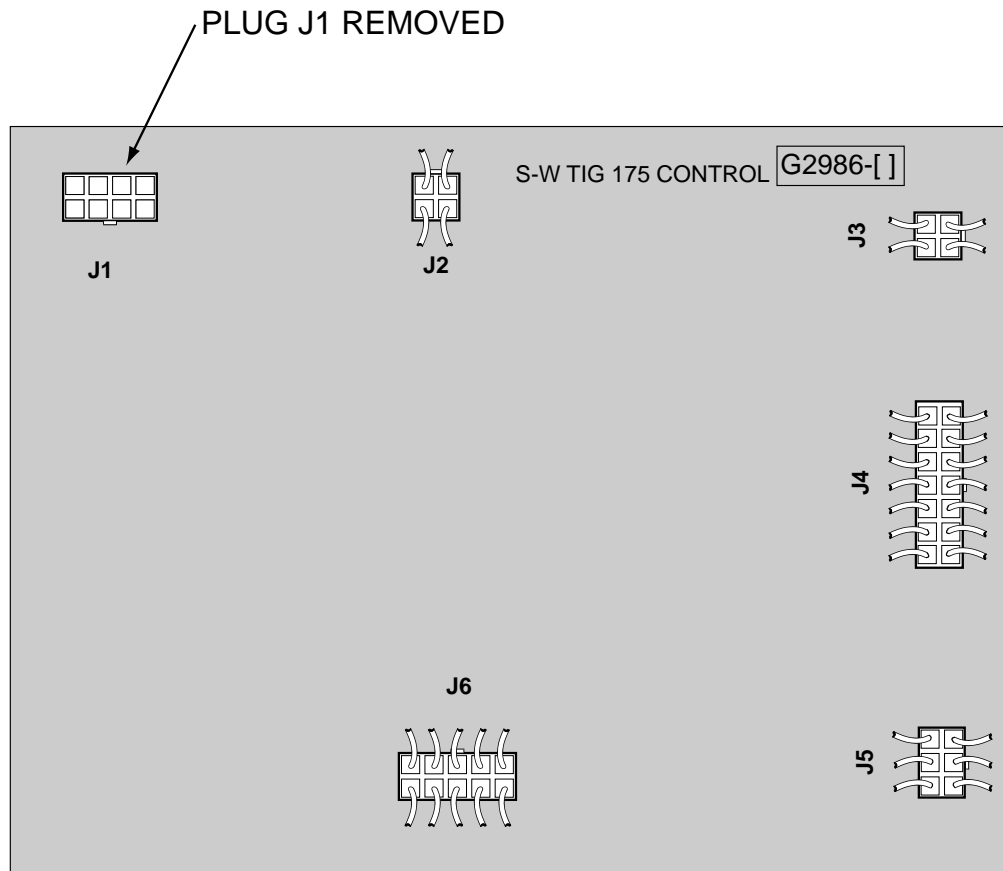

FIGURE F.3 PLUG J1 ON CONTROL BOARD
2. Locate and remove plug J1 from the control board. See Figure F.3.
2. Locate and remove plug J1 from the control board. See *Figure F.3*.